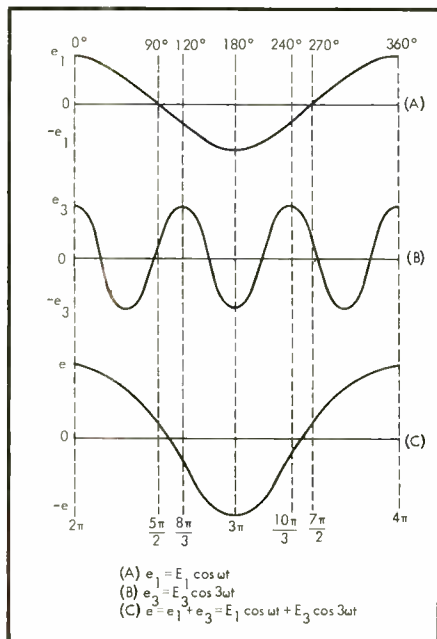
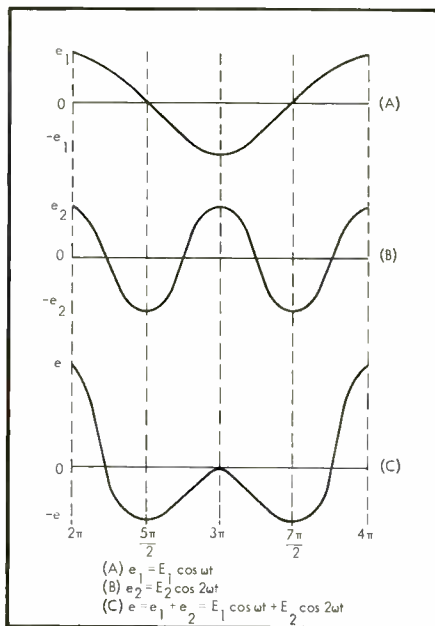

Fig. 11. A signal with second harmonics (C) is made up of the component parts, (A) and (B).
Fig. 12. A signal with third harmonics (C), and its component parts, (A) and (B).
The drawing of the component parts of Eq. (19) is shown in Fig. 12.
While from Fig. 11, two equally spaced ordinates in one cycle were required to find the second harmonic components, three equally spaced ordinates must be determined from Fig. 12 to find the magnitude of the 3rd harmonic component. These three ordinates are at 2π or 360 deg., $8\pi/3$ or 480 deg., and $10\pi/3$ or 600 deg.
The mixer is housed in a Bud SB-2143 shadow cabinet. The general location of all components can be determined from Fig. 12. As shown in this figure, construction is easy and roomy. All of the tight wiring is done on the component boards, and only a few components are located on the chassis itself. The only tight location is the front panel. Arrangement of controls and meters on the front panel is difficult to permit best operation and yet provide for functional placing of all controls.